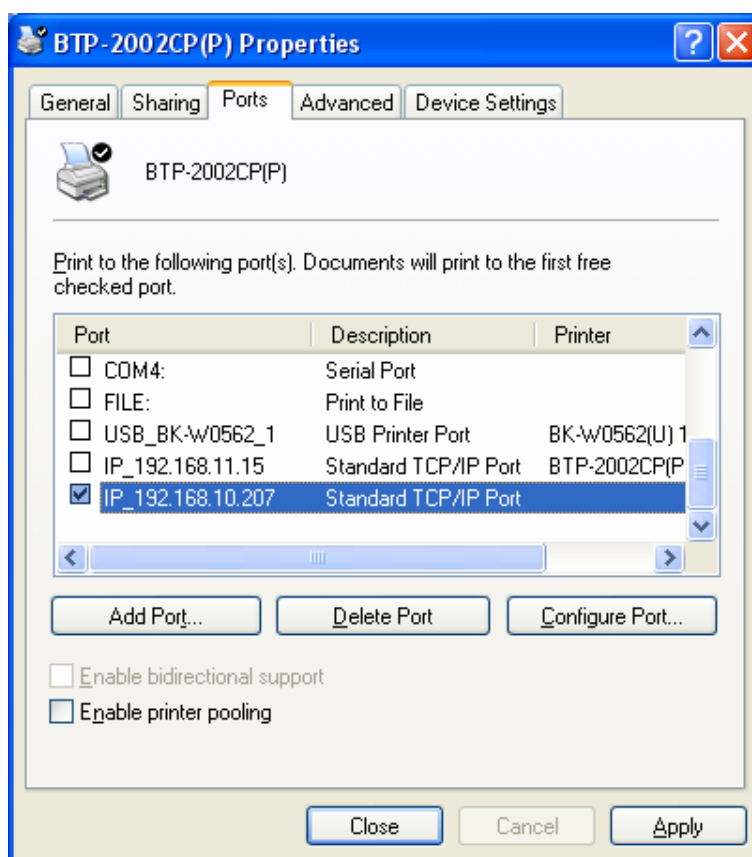

Figure 5.3.8 PORT Property Column Window
- Select new TCP/IP Port and click “Apply”, then “OK”, and TCP/IP Port configuration is finished (shown as figure 5.3.8).